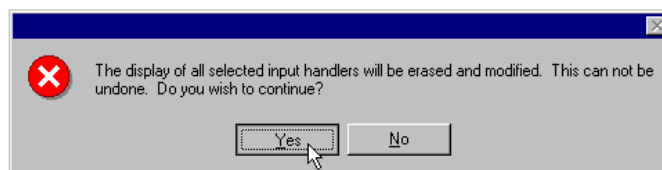

Figure 3-56 Generate Displays
49. Click **Yes** or press <Enter> to automatically generate the displays (Figure 3-56). (*Clicking **No** would close the window without generating displays.*)